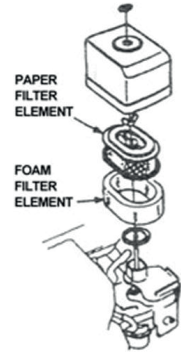

Figure 1 Air Filter
2. To clean or replace air filter loosen the wing nut on the air filter housing (Figure 1), remove the cover and take out air filter cartridge. If only cleaning of the air filter is desired blow through the air filter cartridge from the inside, moving a jet of dry compressed air up and down until all dust is removed